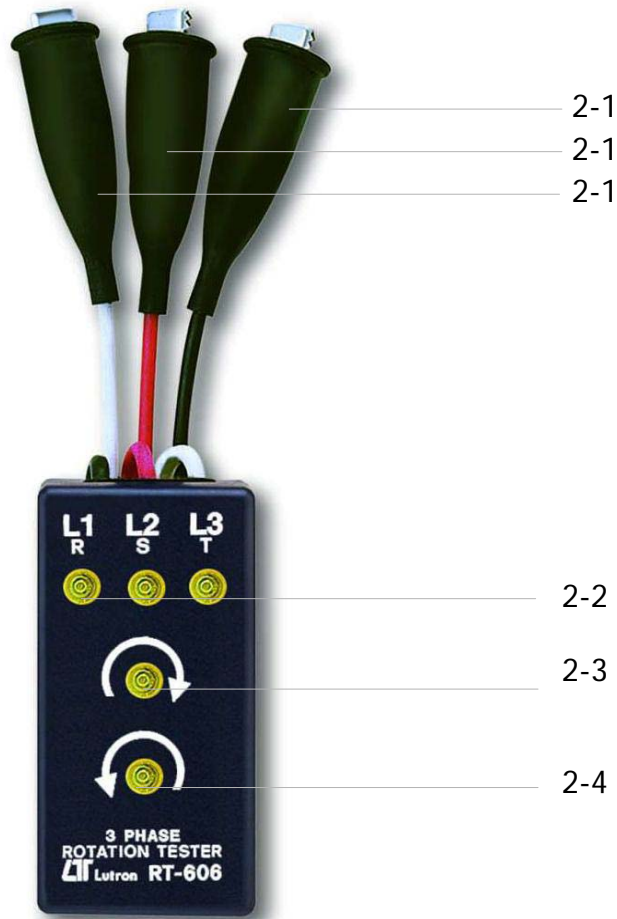

Fig. 1
- 1) Plug in the test leads into the " 3 phase rotation tester input terminal " (2-1, Fig. 1)